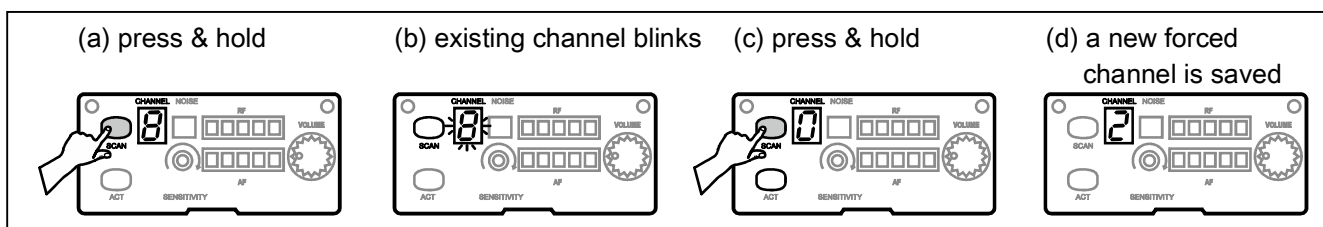

Fig. 6
(2) Manually Searching for a Receiver Channel:
Press and hold Channel (CH) button **A6** to perform a manual channel search. Existing channel blinks to denote it is ready to accept parameter changes. During blinking, press and hold Channel button to force the channel to go forward to the next channel in order. Release Channel button until a desired channel is located. This new channel is now saved. If Channel button is not pressed within six blinks, it stops blinking and reverts back to the existing channel, Fig. 6.